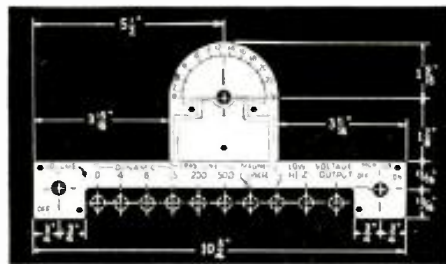

Fig. 2. The figures on the scale are in thousand cycles.
The system of Fig. 2 is designed to use 5 stations and no more, although the number can be reduced if 5 are too many.
The master unit and one station unit of the selective system, Fig. 2, are illustrated at the left of Fig. A. The master and one station of the common system, Fig. 1, are shown at the right of the same photograph.
The master unit of Fig. 2 is equipped with 5 output jacks, from which 5 cables radiate to as many outlying stations. However, in this system the central "talk-listen" switch must always be in either one position or the other, and feedback and shielding do not present troublesome problems. The cable used is twisted pair, No. 22, in shielding, the shield constituting one of the 3 lines.
Figure 2 has two methods of operation, (1) common and (2) individual. With the selector set at "C" every station hears the master station, and any station can call the master as long as the talk-listen key is set at "listen." No station can hear any other, or talk with any other. All must hold their buttons down to listen as well as to talk.